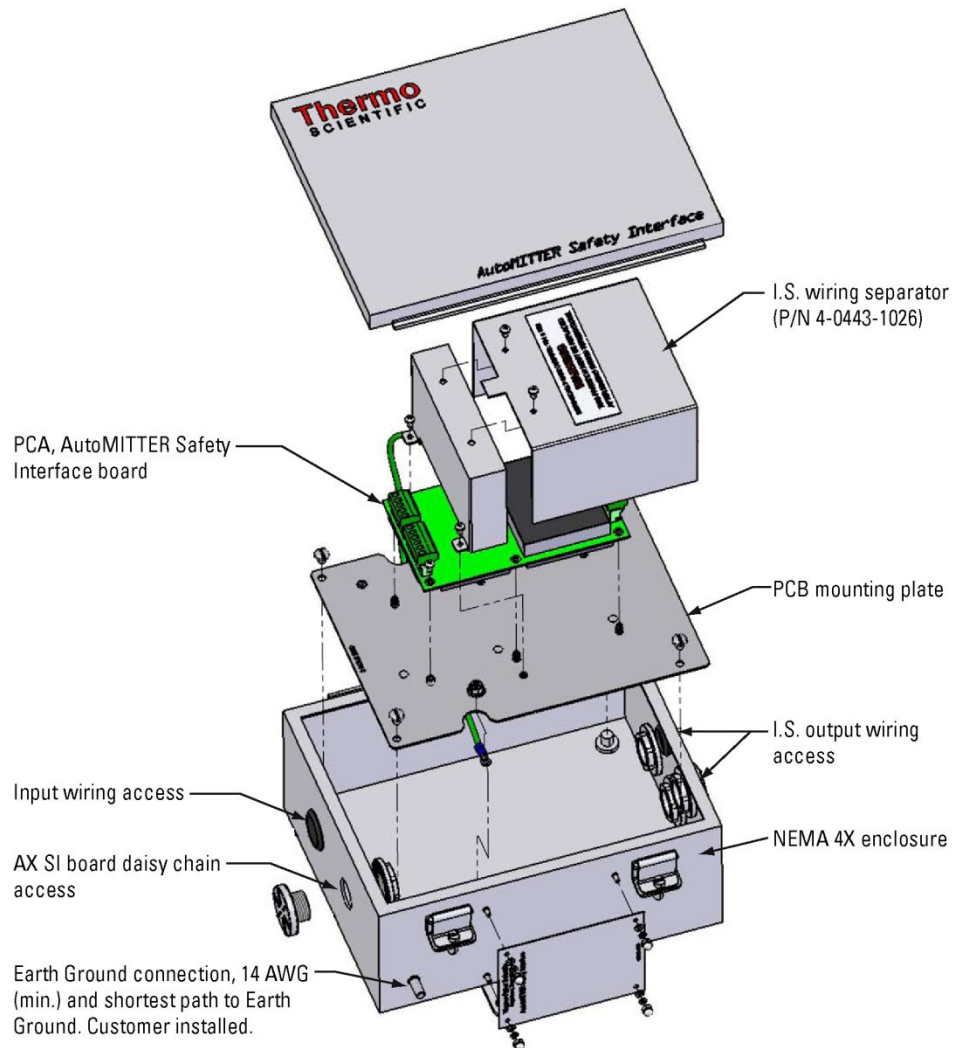

Figure C-1. Exploded view of AutoMITTER SI system, CSA
- Access the I.S. output terminals on the AutoMITTER SIB by removing the wiring separator (shown in Figure C-1).